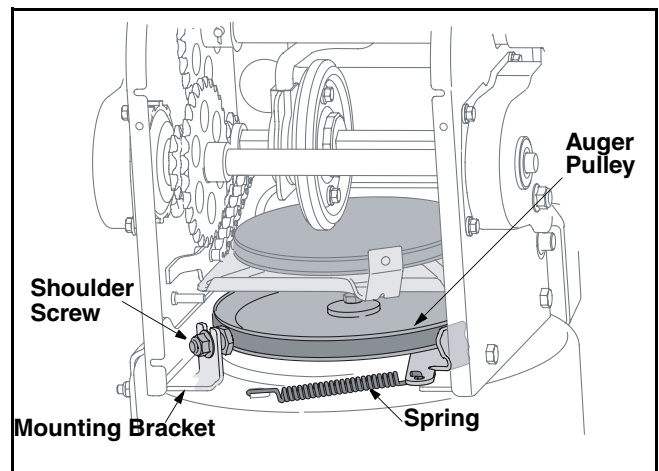

Figure 16
2. Turn the shoulder screw a half a turn and slide it out of the mounting bracket. See Figure 16.
3. Unhook spring to release tension on the auger belt. Remove old belt and replace with new belt, installing it on the pulley. See Figure 16.
4. Wrap auger belt around the auger pulley. See Figure 16.